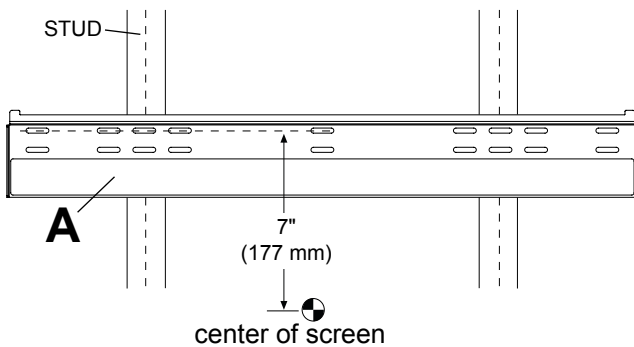
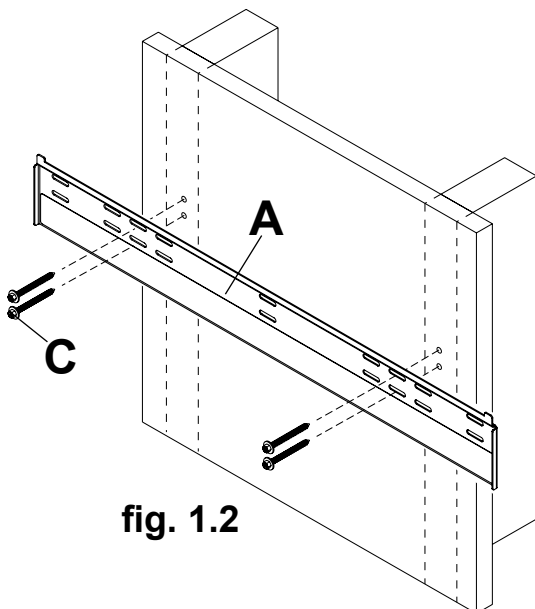

fig. 1.1
fig. 1.2
- 1 Wall plate (A) can be mounted to two studs that are 20" or 24" apart or three studs that are 16" apart. Use a stud finder to locate the edges of the studs. Use of an edge-to-edge stud finder is highly recommended. Based on their edges, draw a vertical line down each stud's center. Place wall plate on wall as a template. The mounting slots should be located 7" (177 mm) above the desired screen center as shown in figure 1.1. Level plate, and mark the center of the each mounting hole. Make sure that the mounting holes are on the stud centerlines. Drill four 5/32" (4 mm) dia. holes 2-1/2" (65 mm) deep when securing to two studs or six 5/32" (4 mm) dia. holes 2-1/2" (65 mm) deep when securing to three studs. Make sure that the wall plate is level, secure it using a #14 x 2.5" wood screw (C) for each mounting hole as shown in fig. 1.2 or 1.3.
- 1** Make sure that wall plate (A) is level, use it as a template to mark six mounting holes. The top mounting slots should be located 7" (177 mm) above the desired screen center as shown in figure 1.1 page 4. Drill six 1/4" (6 mm) dia. holes to a minimum depth of 2.5" (64 mm). Insert anchors (D) in holes flush with wall as shown (right). Place wall plate over anchors and secure with six #14 x 2.5" screws (C). Level, then tighten all fasteners.